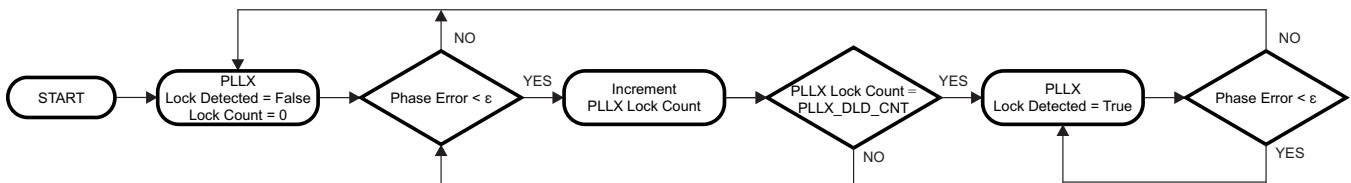

Figure 14. Digital Lock Detect Flowchart
Both PLL1 and PLL2 support digital lock detect. Digital lock detect compares the phase between the reference path (R) and the feedback path (N) of the PLL. When the time error, which is phase error, between the two signals is less than a specified window size (ϵ) a lock detect count increments. When the lock detect count reaches a user specified value, PLL1_DLD_CNT or PLL2_DLD_CNT, lock detect is asserted true. Once digital lock detect is true, a single phase comparison outside the specified window will cause digital lock detect to be asserted false. This is illustrated in Figure 14.